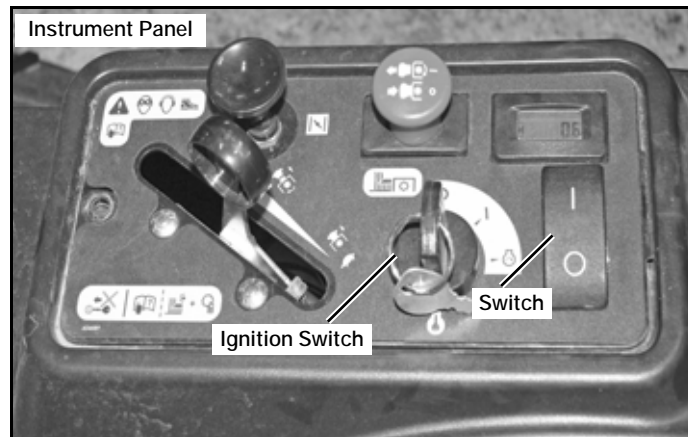

FIG. 2
5. Insert the switch into the cut-out oriented as shown. (FIG. 2) It will snap into place.